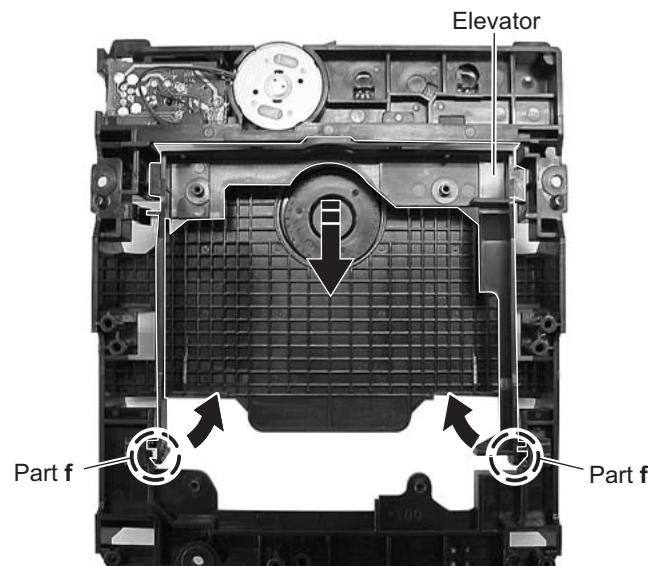
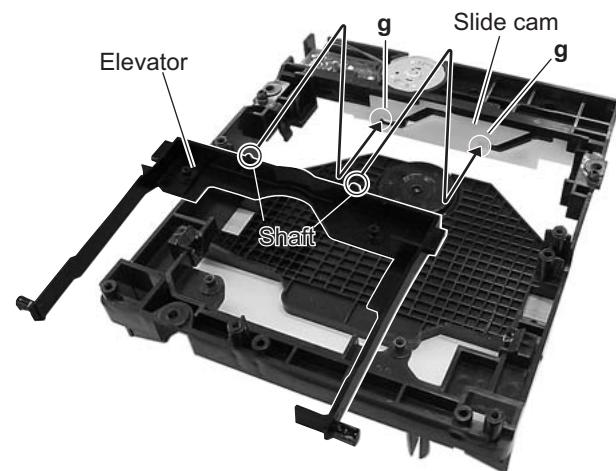

Fig.8
Fig.9
2.1.5 Removing the rear panel (See Figure 8, Figure 9)
2.1.6 Removing the servo control and signal output terminal board. (See Figure 9)
2.1.7 Removing the power supply board. (See Figure 9)
2.2.3 Removing the elevator (See Figure 8 and Figure 9)